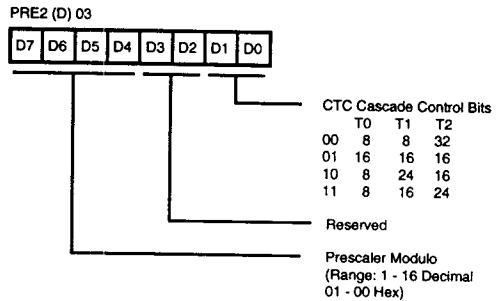

Figure 20. T2 Prescaler Register (PRE2)
are not TTL. The crystal should be AT cut, 1 MHz to 25 MHz max, and series resistance (RS) is less than or equal to 100 Ohms. The crystal should be connected across XTAL1 and XTAL2 using the recommended capacitors ($10 \text{ pF} < CL < 100 \text{ pF}$) from each pin to ground (Figure 20).